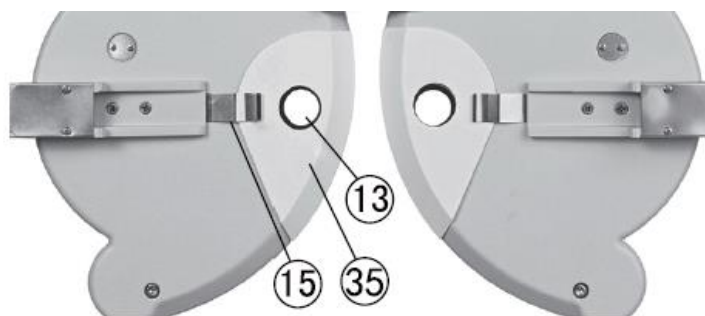

Fig.10
Attach face shield ③⑤ so that face shield clip ③⑮ catches it. Then align face shield aperture with examination aperture ③⑬ (Fig.10).